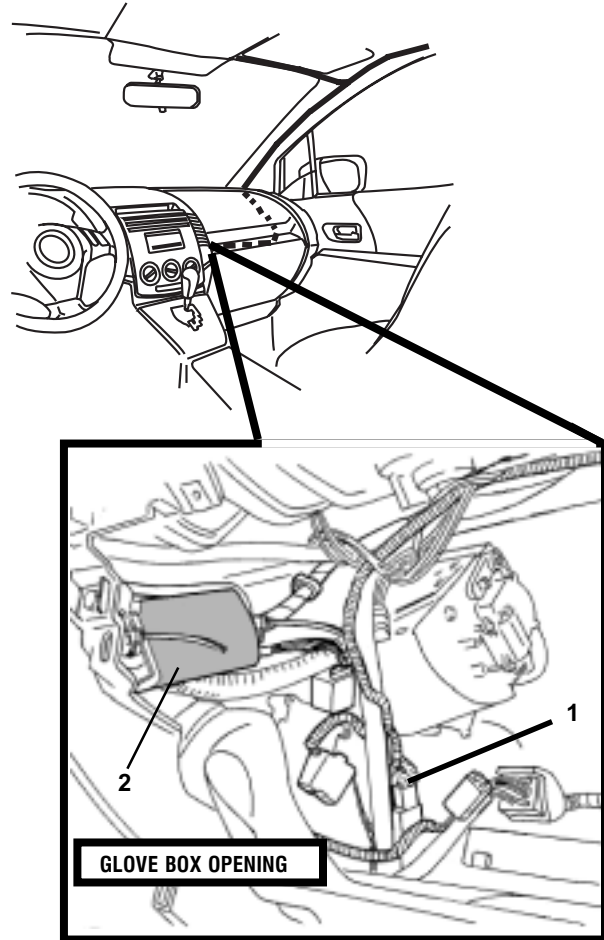

FIGURE 35
1. CONNECT THE POWER HARNESS TO THE MAIN DVD HARNESS (1) AND ROUTE THROUGH THE GLOVE BOX OPENING TO THE RADIO OPENING.
2. PLACE THE FM MODULATOR (FROM MAIN KIT 0000-8F-F40) IN THE AREA JUST BEFORE THE MAIN DVD HARNESS IS PASSED THROUGH INTO THE RADIO CAVITY. (SEE FIGURES 35 AND 36)